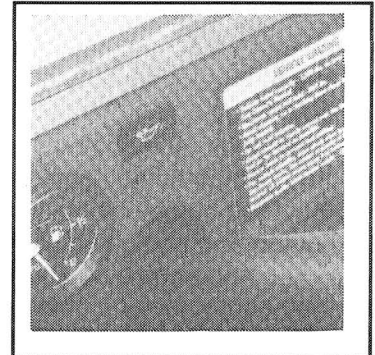

Figure 10
**Oil Light** - The Gasoline vehicle is equipped with a dash mounted oil light above the steering column (See Figure 10). When the oil light is on, it indicates low engine oil. Oil should be added before further use. The vehicle should never be driven if the oil light comes on and stays on. If the oil light goes on and off, you may proceed, but add oil at the first opportunity. If the oil level is correct and light stays on, have a trained and experienced mechanic check the vehicle.